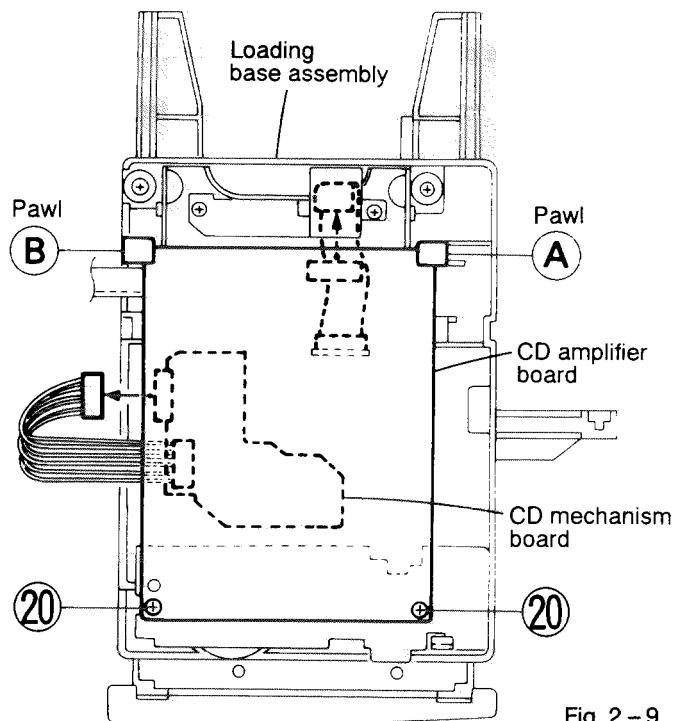

Fig. 2 – 9
3. Remove the two screws ⑩ retaining the CD amplifier board.
5. From the connector CN501 on the CD amplifier board, remove the card wire outgoing from the CD pickup unit. In this case, the card wire should be disconnected after removing the pawls of the connector CN501 in the arrow direction as shown in Fig. 2 – 9.
◆ Removing the CD tray (See Fig. 2 – 10, Fig. 2 – 11)